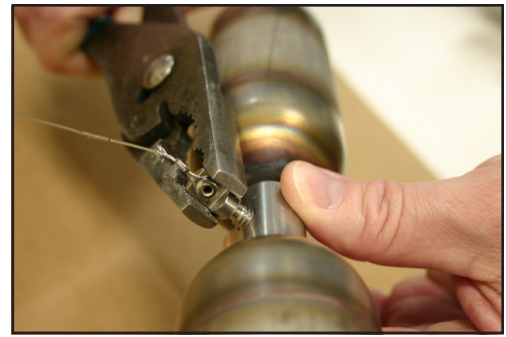

Figure 2
7. Next you need to attach the float to the cable screw on the end of the gauge cable. Unscrew the cable bullet exposing the cable screw threads. Using the small tube of adhesive provided, place a drop or two of the adhesive onto the male threads, of the cable screw. Thread the float onto the cable screw and, while using pliers to carefully hold the float connector, snug the float onto the cable screw (See Figure 2). **NOTE: Make sure to do not damage the cable with the pliers.**